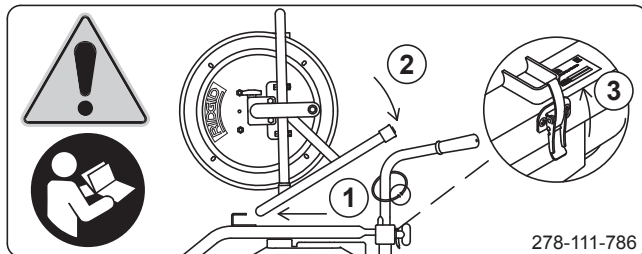

Figure 12– KJ-3100 Hose Reel Label
For KJ-3100: Open the latch on handle assembly and remove the hose reel. For mounting the hose reel, see *Figure 12*. Place the hose reel on frame, front end first ①. Lower the reel to mount ②. Close the latch on handle assembly ③.